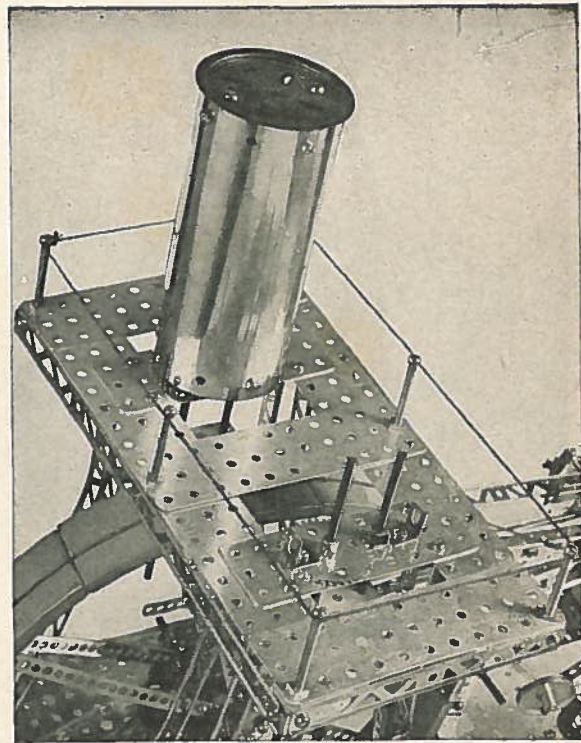

FIGURE 6
To the 8 (C) 10" girders that form the tower supports is fastened the tower platform with 8 (CH) right angles. The platform is made with 7 (MF) 1" x 5" base plates and 2 (ME) 1" x 4" base plates with 2 (C) 10" girders and 2 (B) 5" girders as shown in Figure 6. One of the boilers has been removed in this picture so you might see the (CJ) 36 tooth gear, the (2) 7" axles, and the (CH) right angles that are fastened to each (ME) 1" x 4" base plate. Under the boiler is a (CJ) 36 tooth gear, two 8" axles, 2 (CH) right angles, and a (BH) solid collar that keep one of the axles from moving up. The other axle is kept from moving up by fastening it to the 36 tooth gear. Two (T) boilers are mounted to the (CH) right angles on top of the tower. These boilers represent compressors in the original Corliss engine. Eight (FA) 1 3/4" x 8-32 screws are used with string to form a guard railing on the tower platform.